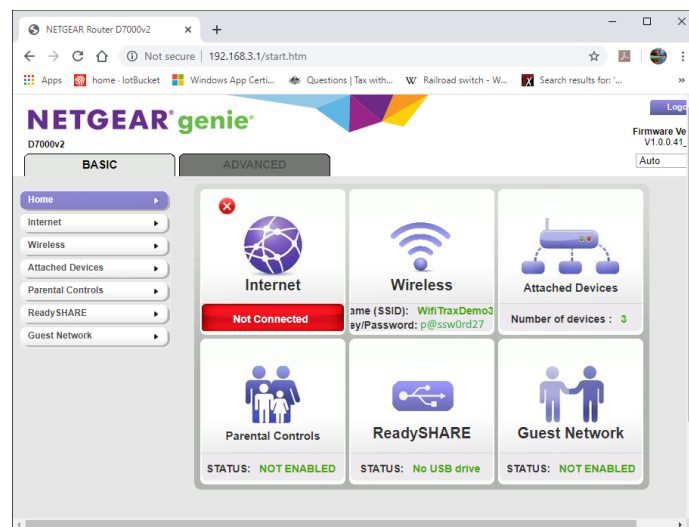

Figure 98 A typical router admin page
- (5) Once you have given the credentials, you will see the admin page. A typical one is shown in Figure 98. Find the “Attached Devices” option and click on it.